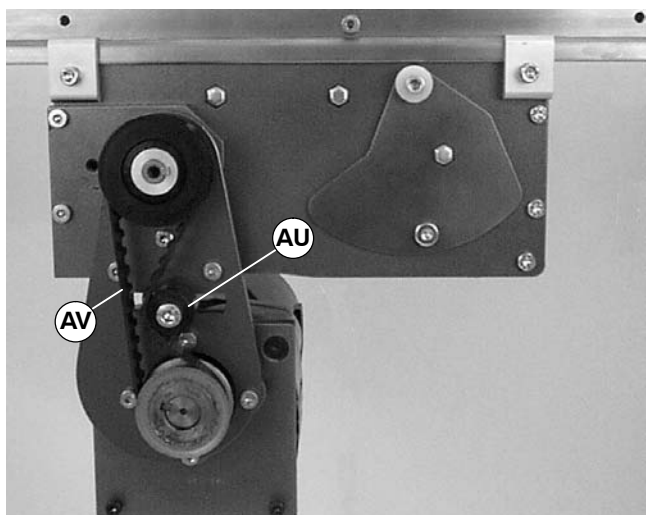

Figure 25
4. Loosen tensioner (AU of Figure 25) to release tension on timing belt (AV).
5. Remove timing belt (AV of Figure 25).